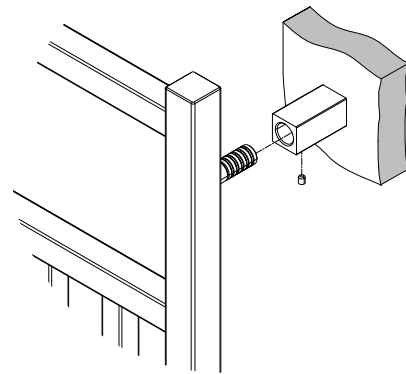

Fig. 5
Lift the towel rail complete with the mounting bars and align with the mounting brackets which were previously fixed to the wall. Insert the mounting bars into the mounting brackets and fix in place using the grub screws (C) - see Fig. 5.